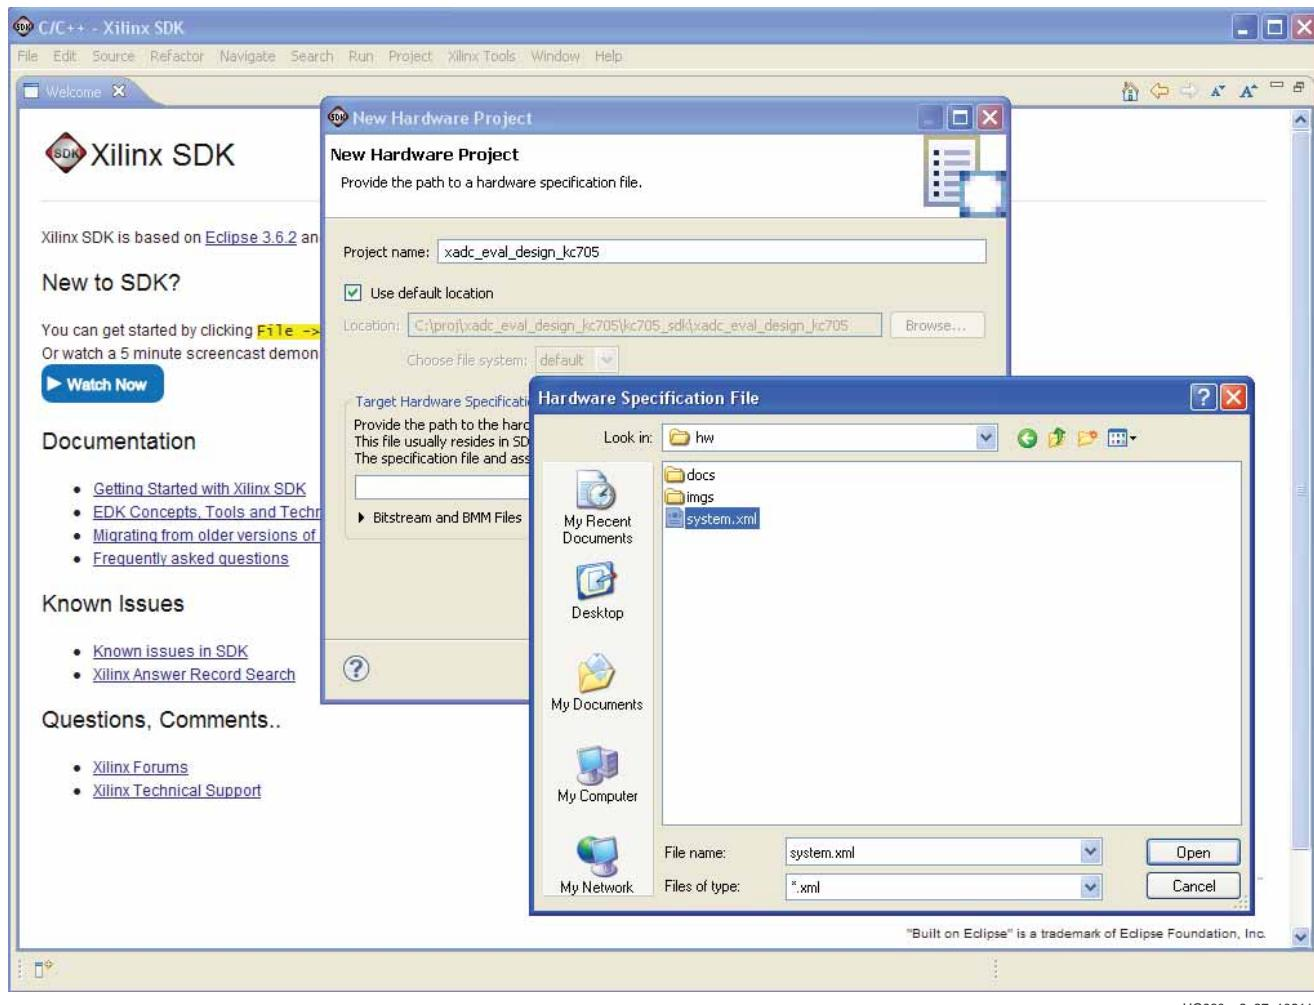

Figure 2-27: Selecting system.xml File
7. Select **system.xml** from the SDK_Export/hw area as shown in Figure 2-27.